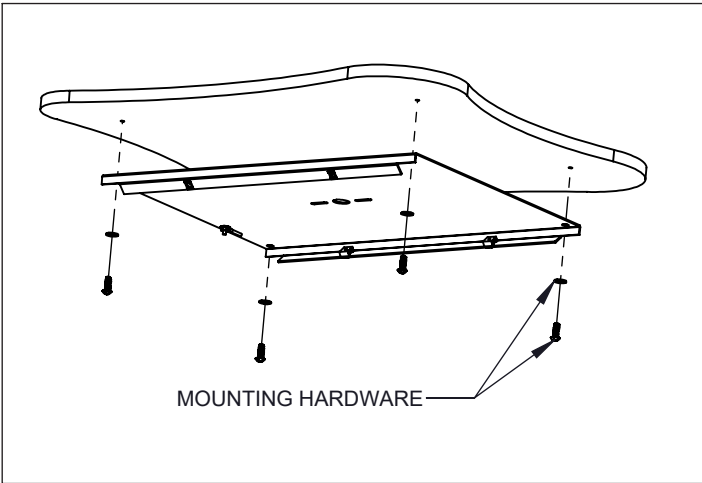

Figure 3
3. Find desired location and install back plate with mounting hardware (by others) (Fig. 3)